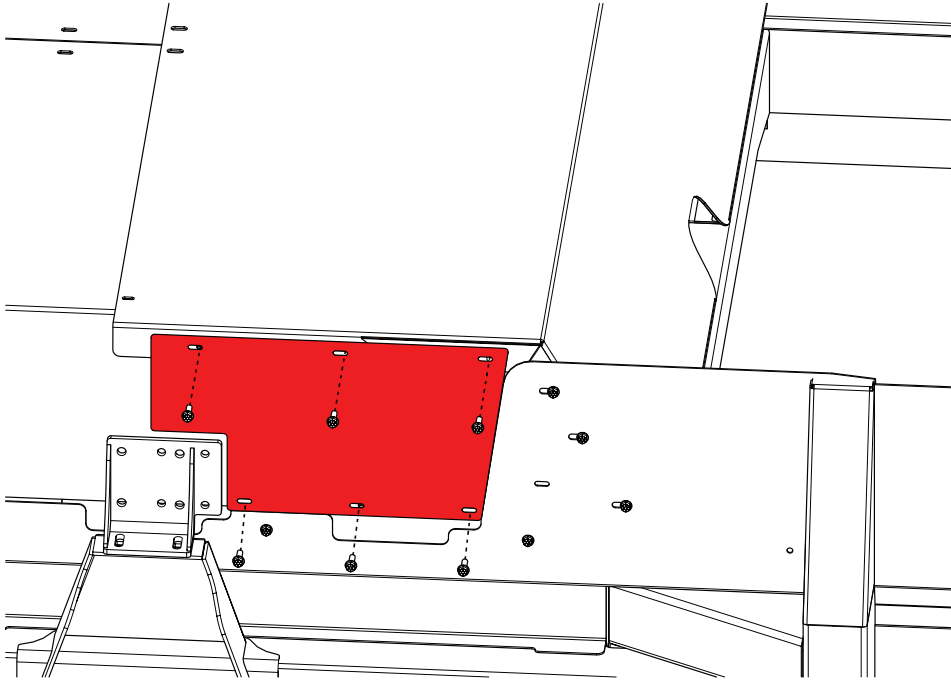

Figure 5
12. Starting on one side of the vehicle, install the large side cover piece (PN 1572667) so that it will attach to the refuse deflector weldment cover piece in three areas and to the rectangle cover pieces in three areas (Figure 5). **NOTE:** The side cover pieces go on the outside of the refuse deflector weldment cover and the rectangle cover pieces.